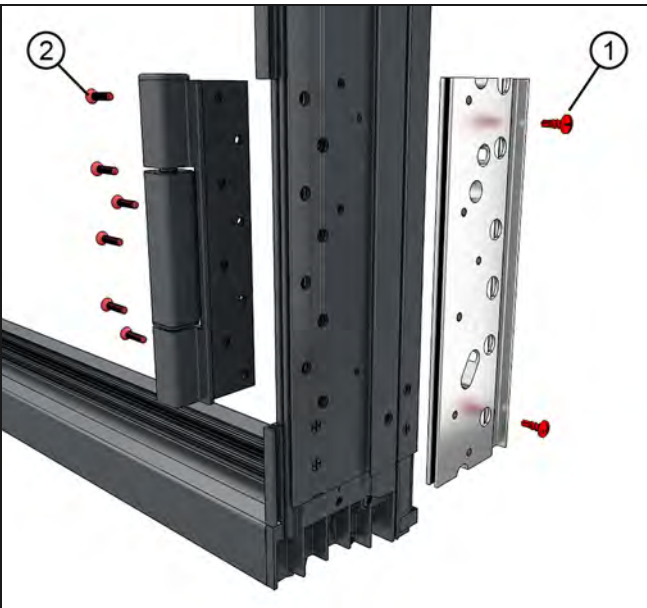

Figure 173
2. If you are mulling to the **Inswing hinge side**, remove the two fasteners that attach the backer to the jamb and the six fasteners that attach the hinge to the backer. See Figure 173.